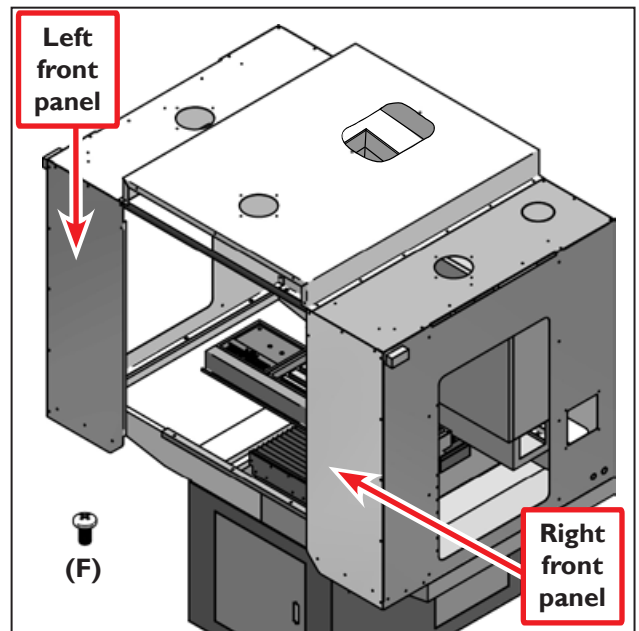

Figure 11
27. Place the Left Front Panel (E.15) onto the left front corner. Loosely fasten with (F) screws along the side and top edges of the front panel (see **Figure 11**).
28. Place the Right Front Panel (E.14) onto the right front corner (see **Figure 11**). Loosely fasten with (F) screws along the side and top edges of the front panel.